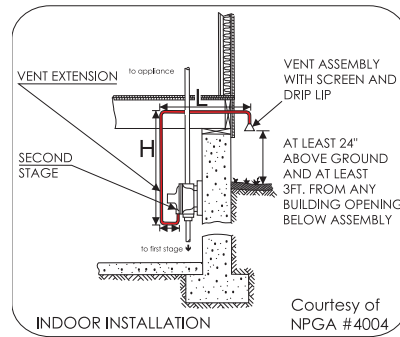

Figure 5
If the second stage regulator has to be installed inside the building, the gas flow through the venthole has to be vented outdoors. See figure 5. For this reason some precautions must be taken:
- Keep pipe length of bends to a minimum to prevent eventual loss of capacity compatible with normal valve function. In figure 5 you can find the dimensions to respect the valve’s normal function (H = 39 inch; L = 31 inch).